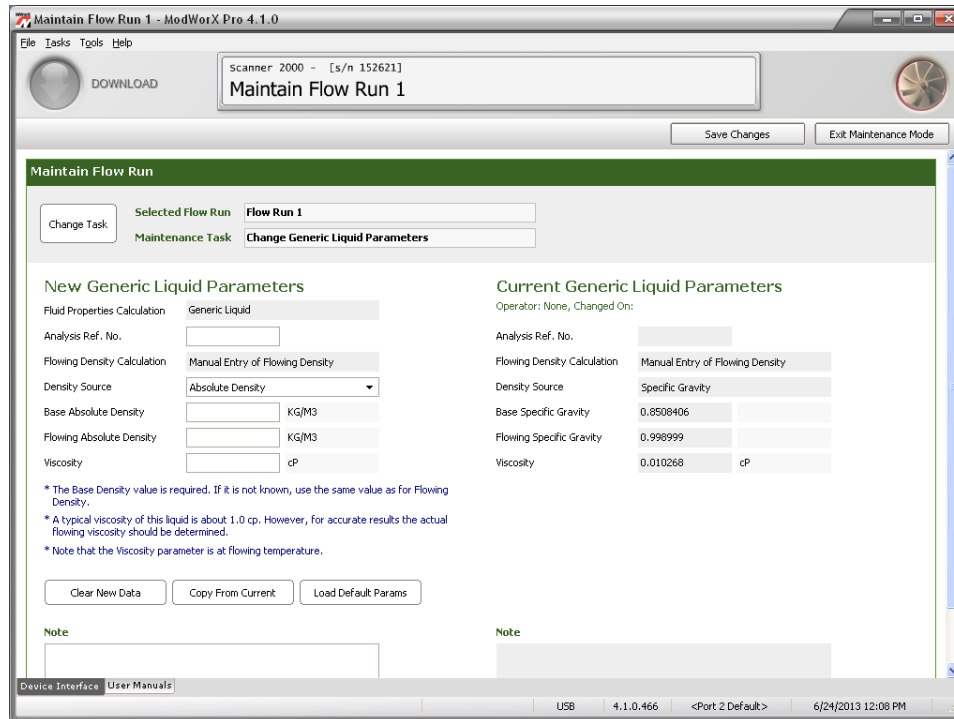

Figure 9.16
- b. Click **OK** to save the settings and return to the Maintain Flow Run screen (Figure 9.16, page 132).